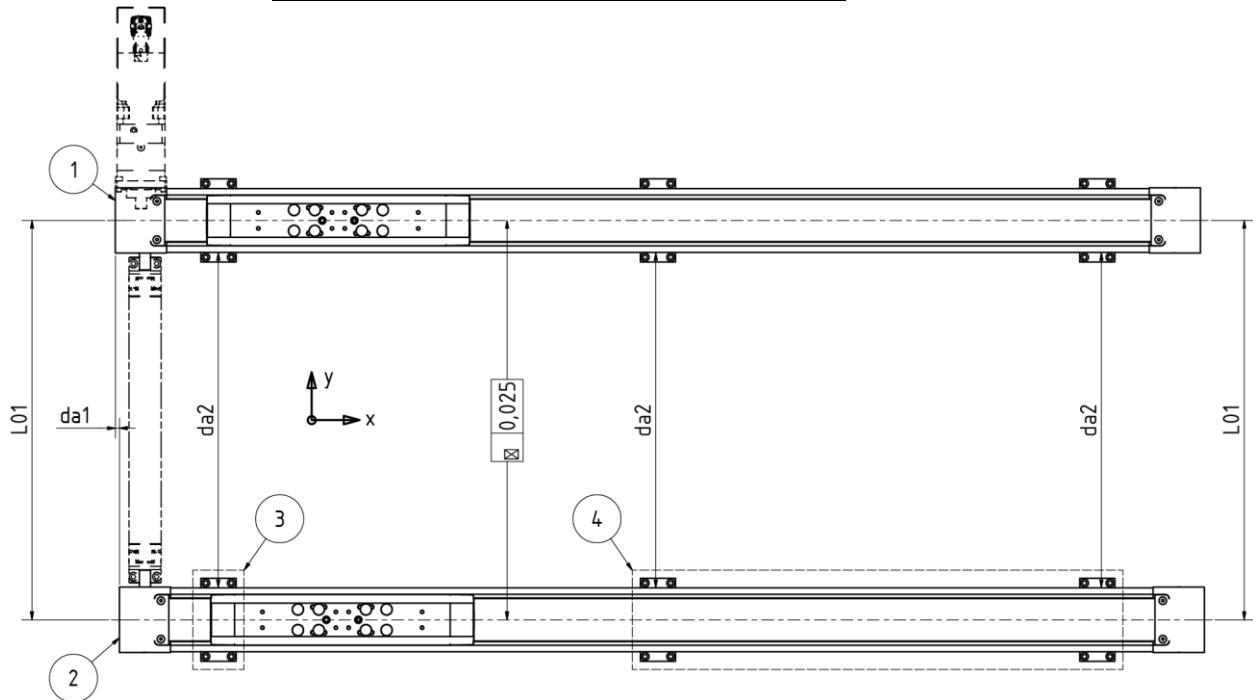

Figure 2: alignment double axis
- ◆ Installation of the first (driving) Linear actuator (Figure 2, Pos. 1) as described in chapter Installation of a single axis (see page 21)
- ◆ Place the second (driven) linear actuator (Figure 2, Pos. 2) to the leveled or treated connection surfaces. Rough alignment of the axis with the system (alignment with the mounting holes of the selected connection option). If the shaft trunions for mounting the connection shaft are already pre-assembled, make sure that the shaft trunions are oriented towards each other.
- ◆ Check center distance of the double axis (Figure 2 und Table 2, measurement L01) and correct if necessary.
- ◆ Align the linear axes axially to each other. Use the front faces of the drive stations. Maximum permissible offset of the drive stations (Figure 2, measurement da1): $(L01-158) * \tan 0.06$.
- ◆ Tighten the screws of the first fastening point of the second linear actuator (Figure 2, Pos. 3) with the respective tightening torque (please refer to Table 1).
- ◆ For the parallel alignment of the double axes, set the same distances one after the other between the individual fixing points of the linear actuators (Figure 2, measurement da2) and tighten the screws of the fastening points of the second linear actuator (Figure 2, Pos. 4) with the respective tightening torque (please refer to Figure 2). Observe the maximum permissible axis parallelism ≤ 0.025 mm. For this, use stops/stop edges, distance gauges, a dial gauge or other suitable measuring equipment.